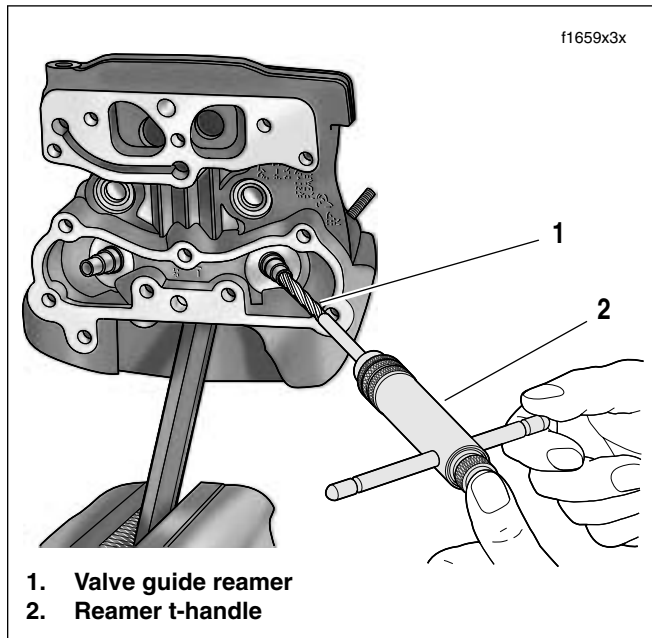

Figure 3-18. Ream Valve Guide Bore
- c. See Figure 3-18. Placing thumb on drive socket of reamer T-handle, apply slight pressure on reamer while rotating in a clockwise direction. Squirt additional lubricant onto reamer and into guide as necessary.